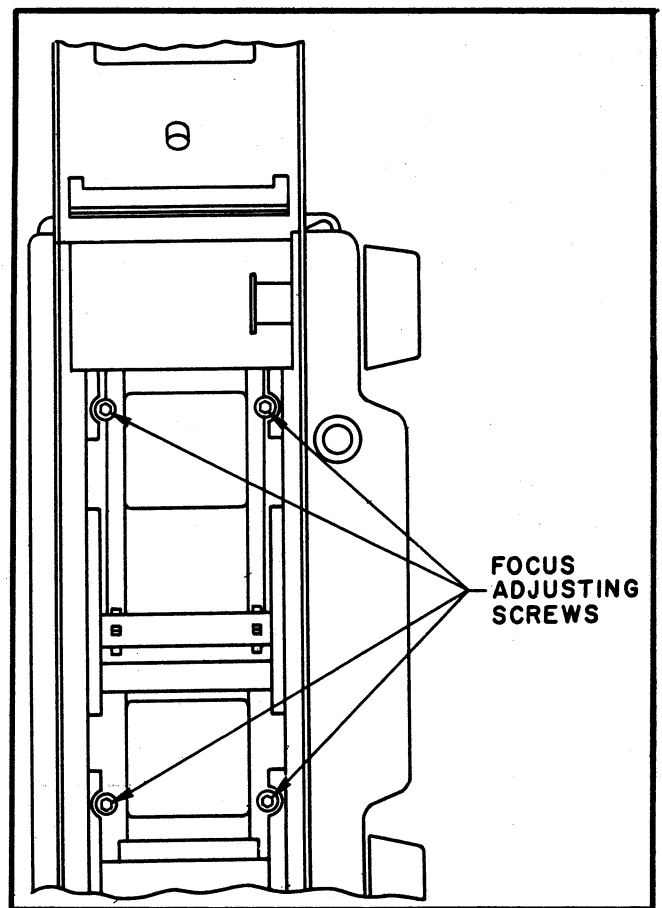

Figure 10. Adjustment of Allen Screws for Focus
4. Adjust Allen screws (Figure 10) for sharpest focus.